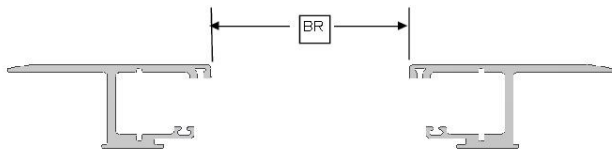
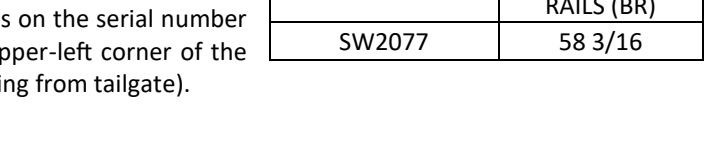

FIG. 4A
FIG. 4B
Finally, check for proper spacing by measuring between the rails at the canister and the tailgate end of the rails (Fig 4A). The measurement should be equal to less than those in Fig 4B. The Rail Brackets and Shims have been pre-installed to achieve the proper Between the Rail dimensions (BR) when placed on an average factory truck bed. However, not all truck beds are average dimensionally and some have optional plastic caps or over the rail spray-in bedliners.
Run the adjusting bolt inward toward the bed wall, putting some pressure on the foot. Continue running the bolt inward using the knob until the rail is visually level. The adjusting bolt can be removed and the base flipped 180 degrees to adjust for varying clearance with the bed wall (FIG. 6D). Verify the BTR dimension after the rails are leveled (STEP 4, FIG 4A & 4B).